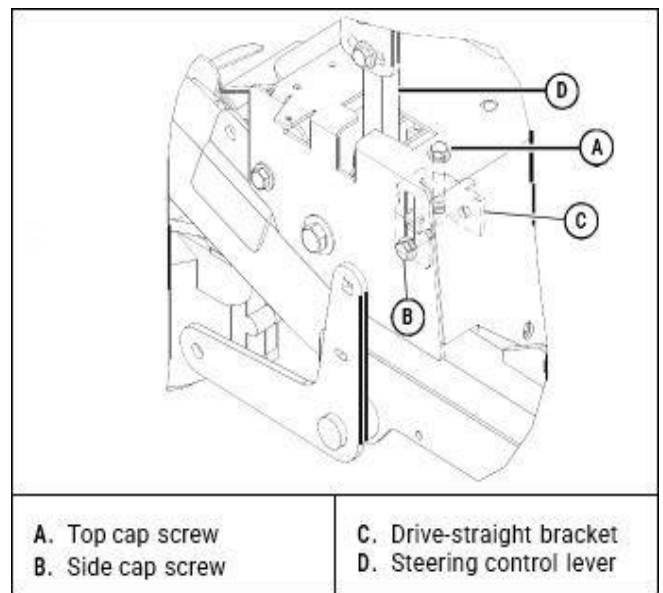

Figure 8
7. Loosen the side cap screw on the outside of the steering cover on the side that is rotating too fast. Tighten the top cap screw to adjust the drive-straight bracket up. This allows the steering control lever to make contact with the drive-straight bracket sooner. Repeat until both drive wheels are rotating at the same speed. [Figure 8]
8. Tighten the side cap screws on both the left and right sides to lock the drive-straight brackets in place. Snug the top cap screws to prevent loosening during operation. [Figure 8]